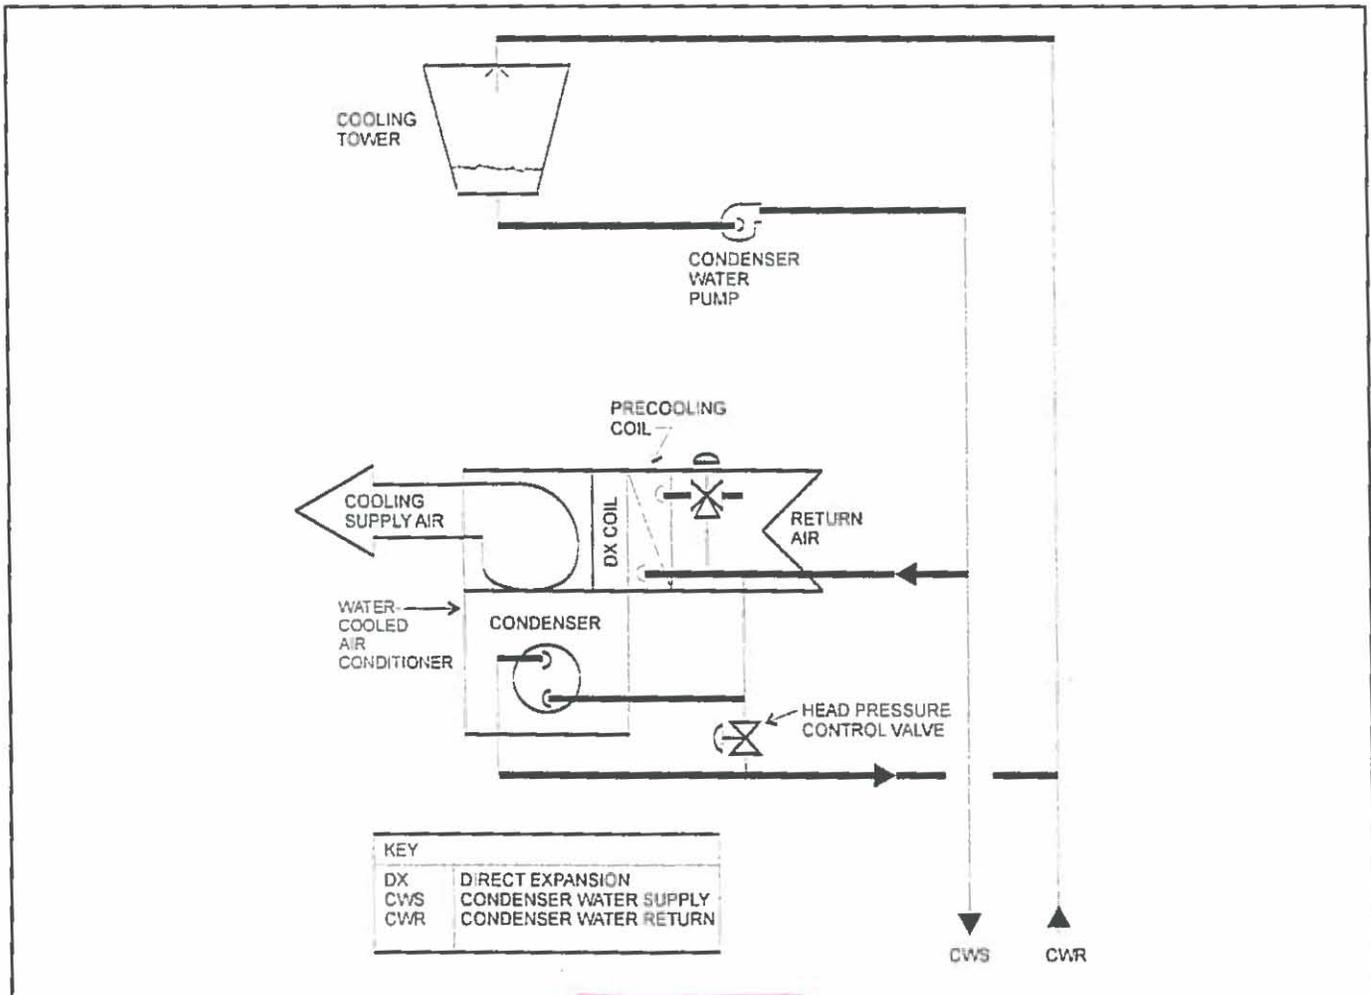

Figure C403.3.1(4)
2. Direct expansion (DX) units that control 75,000 Btu/h (22 kW) or greater of rated capacity of the capacity of the mechanical cooling directly based on occupied space temperature shall have not fewer than two stages of mechanical cooling capacity
❖ To meet the code, economizers must be able to supply not greater than 100 percent of the design supply air as outside air. The code also requires that economizers be integrated. Integrated economizers can reduce the cooling load with the remainder of the load being met by mechanical cooling. Economizers that cannot operate simultaneously with the mechanical cooling system are called "nonintegrated" economizers. Integration can greatly extend economizer operation in mild climates, which reduces the cooling energy cost. Examples of nonintegrated water economizers are shown in Commentary Figure C403.3.1(2). Those shown in Commentary Figures C403.3.1(3) and C403.3.1(4) are integrated economizers because the economizer and mechanical cooling may operate concurrently.